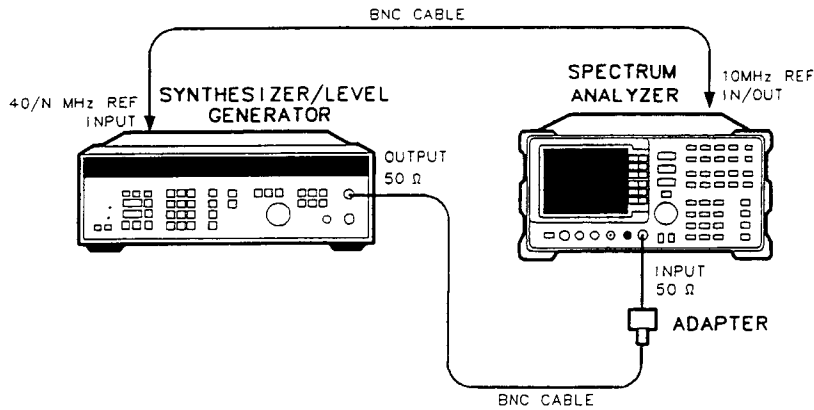

Figure 3-6. Resolution Bandwidth Accuracy and Selectivity Test Setup
1. Connect the equipment as shown in Figure 3-6. The spectrum analyzer provides the frequency reference for the HP 3335A.